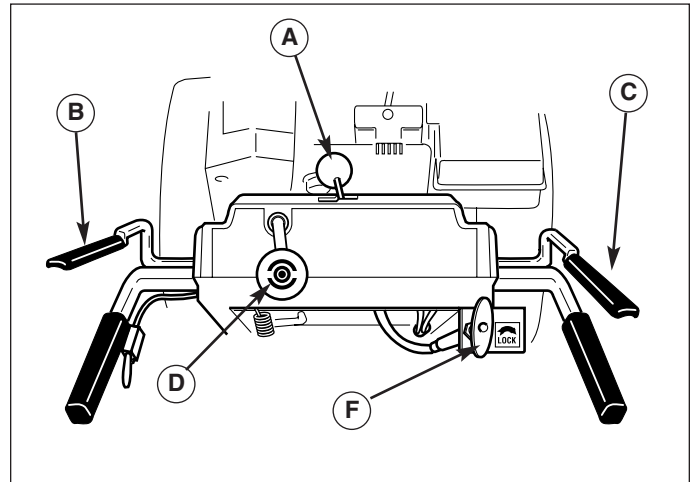

Figure 2. Controls (from operator's position)
6. Check the Drive Control (B, Figure 2), and Auger Control (C) for proper operation. If adjustment is required, see the Service section for procedures.
7. Check the Chute Direction Control (D, Figure 2) for proper operation. The discharge chute should rotate freely in both directions. See the Service section for adjustment procedures and troubleshooting.
8. Check the Chute Deflector (E, Figure 2) for proper operation. The deflector should pivot freely up and down when the Chute Deflector Knob is loosened.
10. Check the Speed Selector (A, Figure 2) for smooth operation. The control must move freely into each speed position gate and remain in position when released. If the Speed Selector does not move freely into all forward and reverse speed positions, contact your local authorized dealer for assistance.
3. Fully press and hold the Auger Engage Control (C, Figure 2) on the right-hand grip to begin auger rotation. Releasing the Auger Engage Control will disengage the auger —**unless the Free-Hand™ Control has been activated (See step 5 below).**
4. Fully press and hold the Traction & Free-Hand™ Control lever (B, Figure 2) on the left-hand grip to engage the traction drive and begin moving the snowthrower. To disengage the traction drive, completely release the lever.
6. Select forward or reverse speeds as needed using the Speed Selector (A, Figure 2). Release both control levers before changing drive speeds.
Use the Speed Selector (A, Figure 2) to control the drive speed of the snowthrower. There are five forward speeds and two reverse speeds.
To change speeds, release both control levers (B, Figure 2), then move the Speed Selector to the desired setting. Fully depress the control levers to resume.